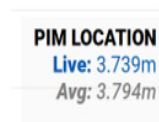

Figure 4-19. PIM Location
2. Place a known PIM source (as shown in the figure 4-19), on the antenna radome to calibrate (zero out) the system and account for any delays introduced by the RF path.